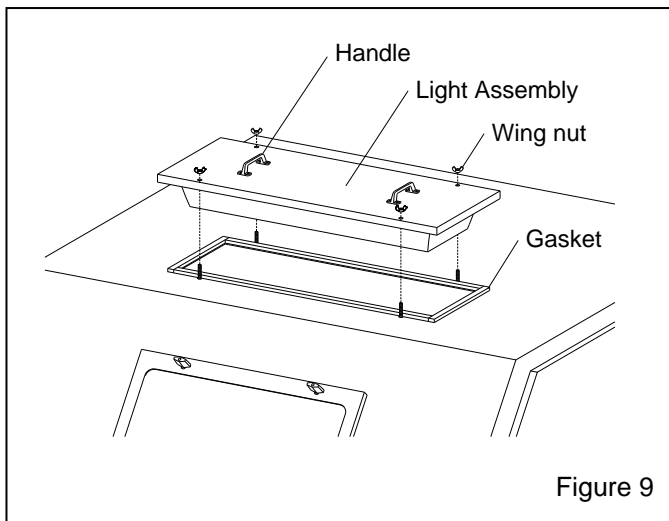

Figure 9
7.6.2.1 Remove the four holding wing nuts, and use the handles to lift the fixture off the cabinet, as shown in Figure 9.
7.6.2.3 Lay a section of strip gasket next to the opening, and cut to length, allowing 3/4" overlap on each end. Peel a short section of adhesive backing and adhere the strip gasket to the top edge of the light opening, as shown in Figure 9. Press the gasket tightly to bond. Repeat the process for each side, compressing the ends to seal.